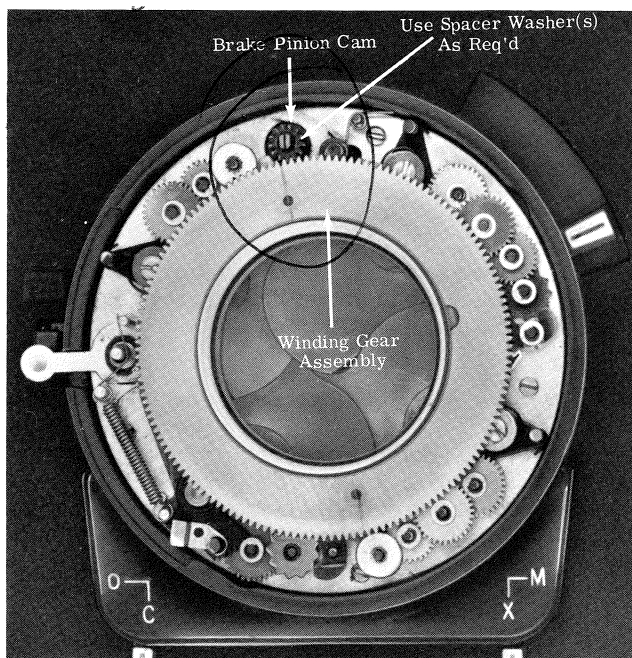

Figure 15.
d. Continue clockwise movement of winding gear until the scribed line is opposite the slot in the brake pinion cam. Back off winding gear one tooth (Figure 15), and engage winding gear and brake pinion cam in this position. (Winding gear will tend to turn in a counterclockwise direction when released. This will not influence timing as both winding gear and brake pinion cam are meshed.